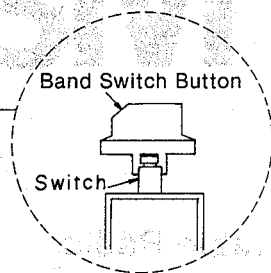

Fig. 14
*6 Align the tab on the knob with the groove of each band switch, and then insert until it contacts the stopper. (Fig. 14).